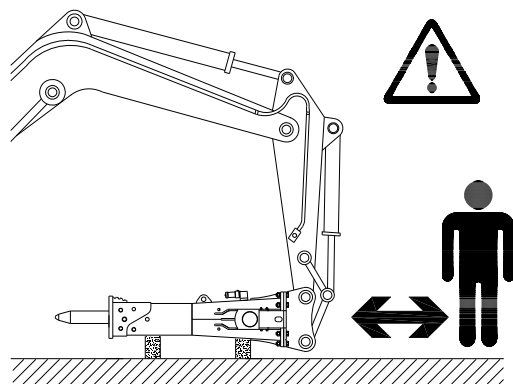

Fig. 9-2 Attach Breaker to Carrier - Typical
1. Operator: Move carrier and breaker to a firm level surface. Refer to Figure 9-2. Position the breaker horizontally with the hose side up and with the breaker's tool pointing toward the carrier.